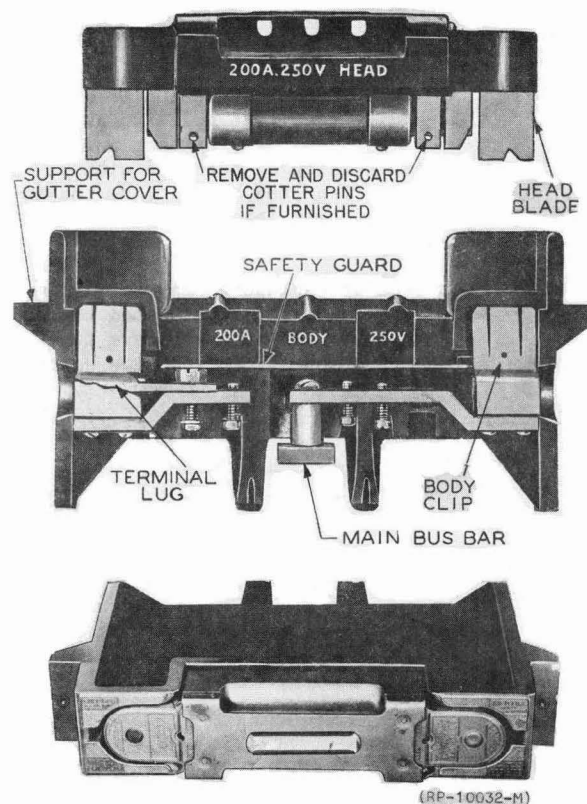

FIG. 1 SAF-TO-FUSE UNIT (BULLDOG ELECTRIC PRODUCTS CO.)
1.41 Cartridge type fuses covered herein are of two general types. Some having ferrule contacts and some having knife blade contacts. Fuses rated 60 amperes and below are ferrule type and fuses rated 61-600 amperes are knife blade type. These fuses may mount in open clips or in insulated holders, such as the SAF-TO-FUSE or PULFUZSW units shown in Figures 1 and 2, respectively.